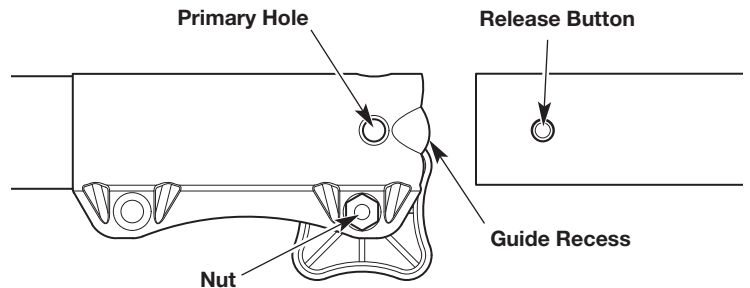

Fig. 5
4. Align the release button with the guide recess (Fig. 5).
5. Push the attachment straight into the coupler until the release button snaps firmly into the primary hole (Fig. 5).
NOTE: Do not tighten the nut (Fig. 5).
3. Press and hold the release button (Fig. 5).